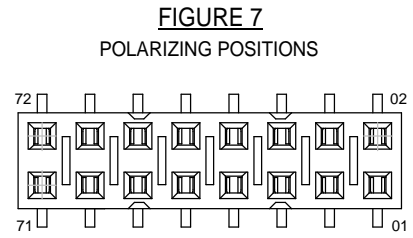

FIGURE 7
- XX: POSITION TO BE POLARIZED (USE PK-06-N) (SEE FIG 7, SHT 2) (NOT AVAILABLE WITH -BE OPTION)